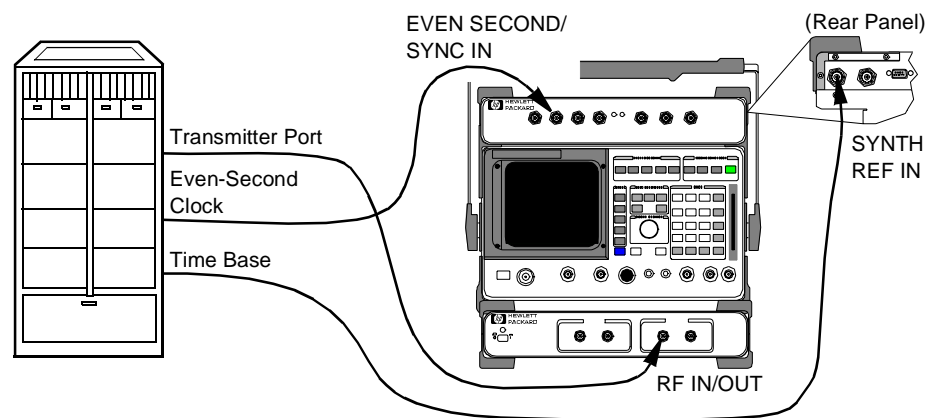

Figure 12
- 1 Connect the equipment as shown in figure 12.